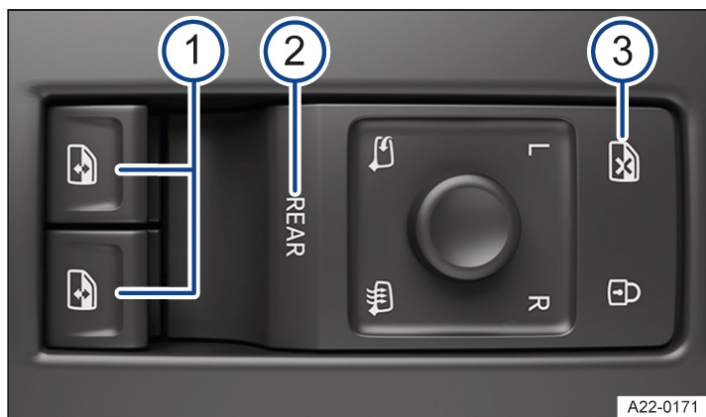

Fig. 1 In the driver door: buttons for the front and rear electric windows
• buttons can be used to operate the electric windows in the front doors → Fig. 1 ①.